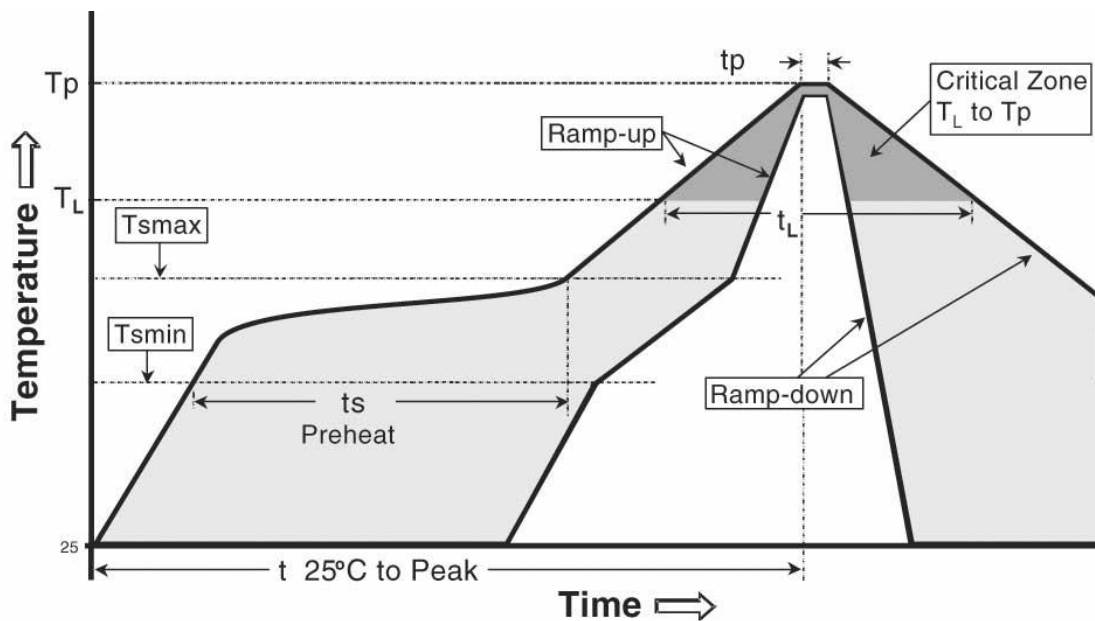

Figure 9 – Temperature profile.
2. Perform a reflow process according to the temperature profile detailed in Table 4, Figure 9.